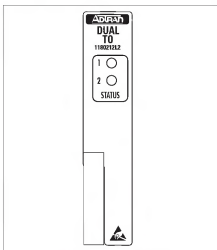

Figure 1. Dual 4-Wire TO
This practice provides installation and maintenance procedures for the ADTRAN Total Access 1500 Dual 4-Wire Transmit Only (TO) Access Module. **Figure 1** is an illustration of the Total Access 1500 Dual 4-Wire TO.